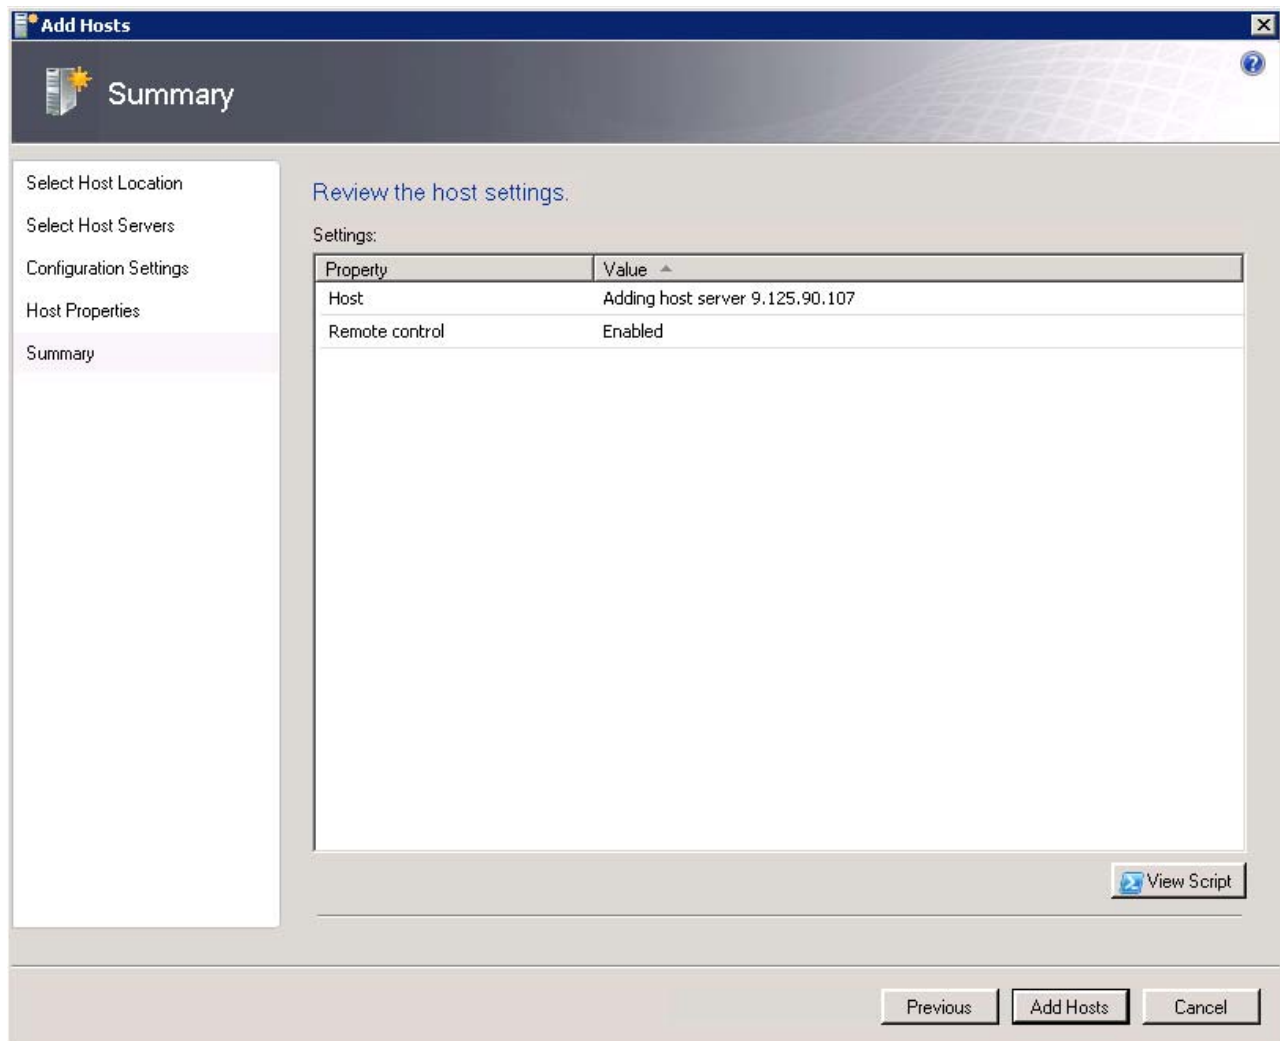

Figure 3-6 Add Hosts wizard: Summary
6. Review the summary and click **Add Hosts**, as shown in Figure 3-6.